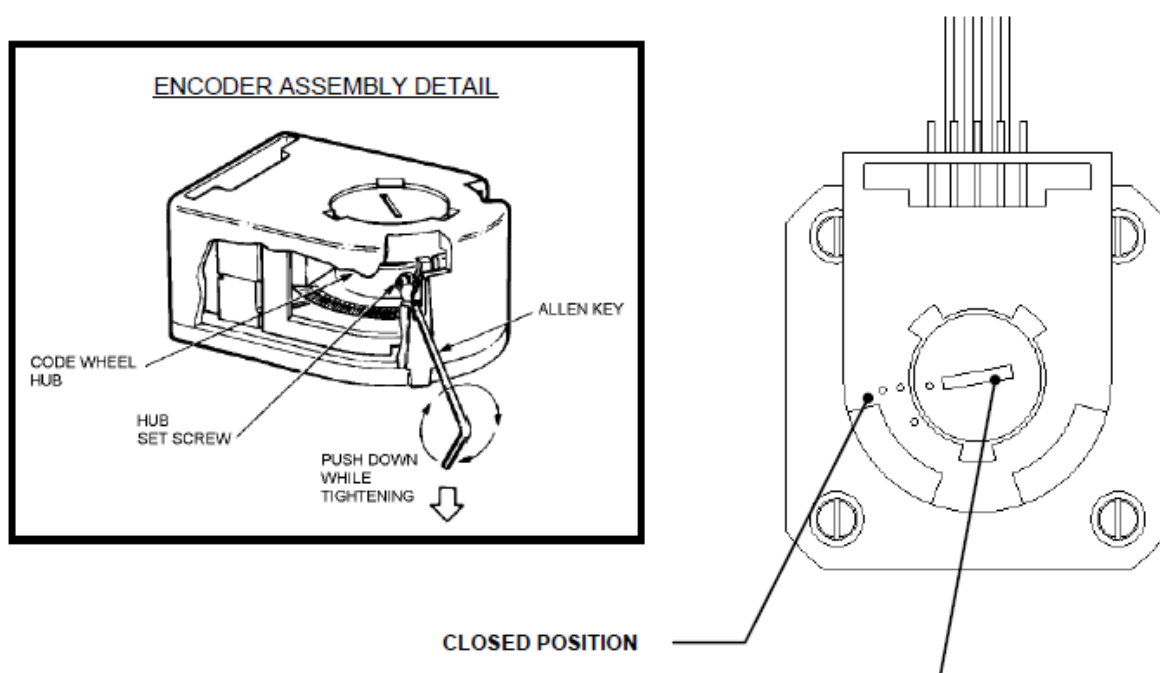

Figure Z-23: Encoder Assembly Detail
2. Push the Allen Key into the body of the encoder to ensure that it is properly seated into the code wheel hub set screw. Then, apply a downward force on the end of the Allen Key. (This sets the code wheel gap by levering the code wheel hub to its upper position.) While continuing to apply a downward force, rotate the Allen Key to the clockwise direction until the hub set screw is tight against the idler shaft. Remove the Allen Key by pulling it straight out of the encoder body (Figure Z-23).